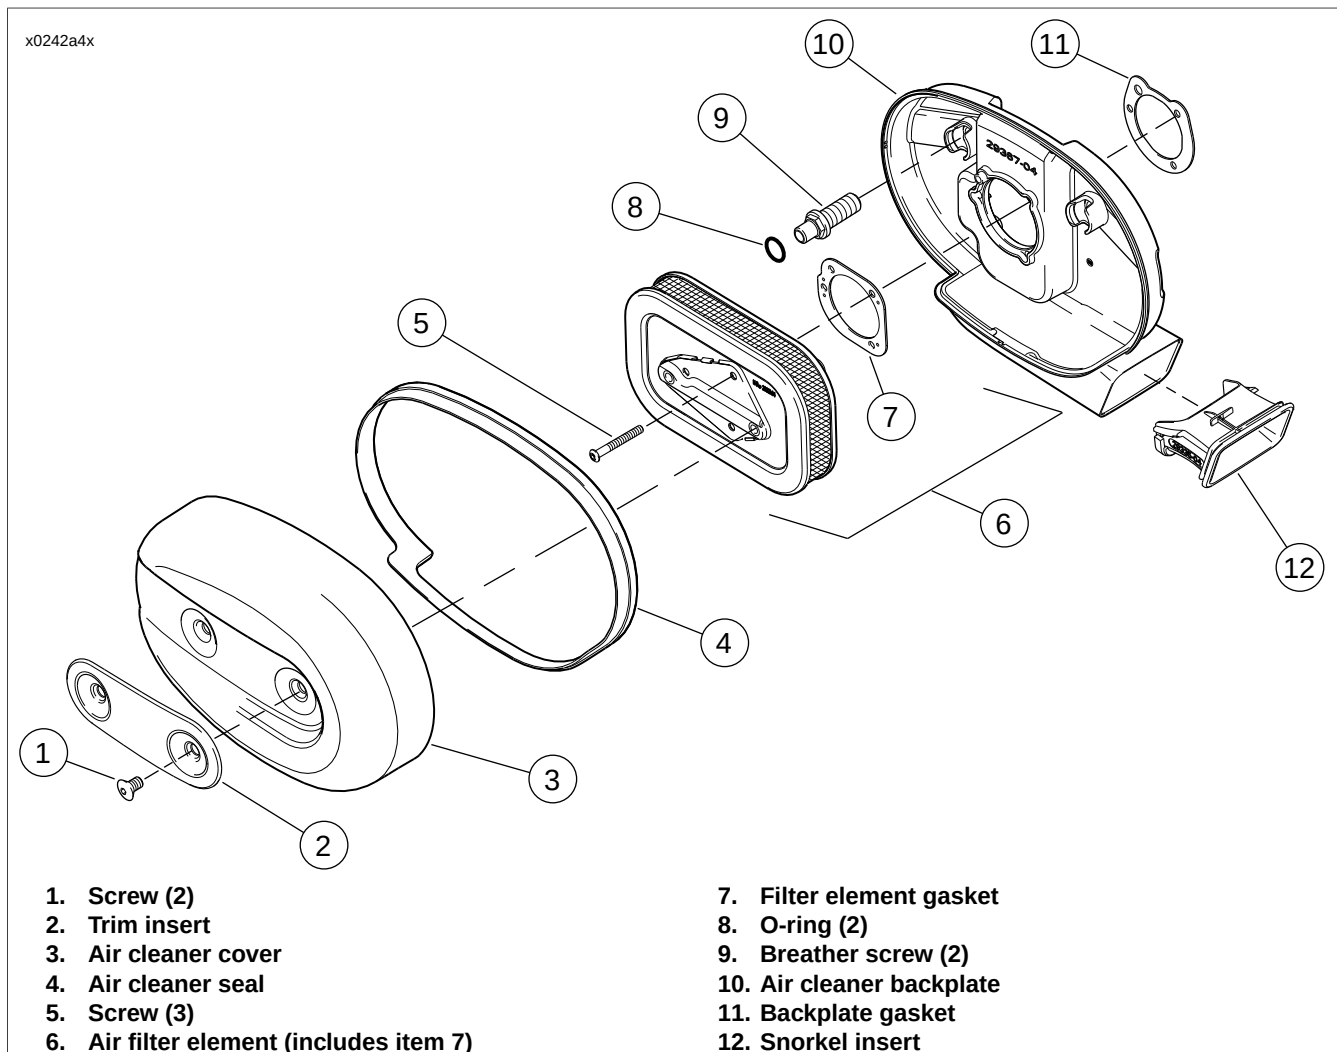

Figure 4-1. Air Cleaner Assembly
1. See Figure 4-1. Remove two screws (1) and trim insert (2) from air cleaner cover (3).
2. Remove air cleaner cover from air cleaner backplate (10). Remove air cleaner seal (4) from air cleaner cover.
3. Remove three screws (5). Remove air filter element (6) and gasket (7) from air cleaner backplate. Discard gasket. If filter element is being removed for cleaning only, proceed to 4.4 AIR CLEANER: XL MODELS, Cleaning, Inspection and Repair which follows.
1. See Figure 4-1. Thoroughly clean air cleaner backplate (10) and inside of air cleaner cover (3).
2. If air filter element (6) is damaged or if filter media cannot be adequately cleaned, replace element and proceed to step 6.
1. See Figure 4-1. If snorkel insert (12) was removed from air cleaner backplate, slide insert into air cleaner backplate and snap into place.
2. Position **new** gasket (11) and air cleaner backplate (10) at induction module air inlet. Secure air cleaner backplate to engine heads with two breather screws (9). Tighten to 120-144 **in-lbs** (13.6-16.3 Nm).
3. Apply a thin coat of engine oil or light grease to o-rings (8). This will help prevent them from being damaged when air filter element is installed.
4. Position **new** gasket (7) on air cleaner backplate. Make sure gasket holes are lined up with backplate holes.
5. Install air filter element (6) onto backplate. Secure with three screws (5). Tighten to 40-60 **in-lbs** (4.5-6.8 Nm).
6. Install air cleaner seal (4) on air cleaner cover (3). To ensure proper sealing, make sure air cleaner seal covers the entire edge of the air cleaner cover.
8. Install trim insert (2), and secure insert and air cleaner cover with two screws (1). Tighten to 36-60 **in-lbs** (4.1-6.8 Nm).